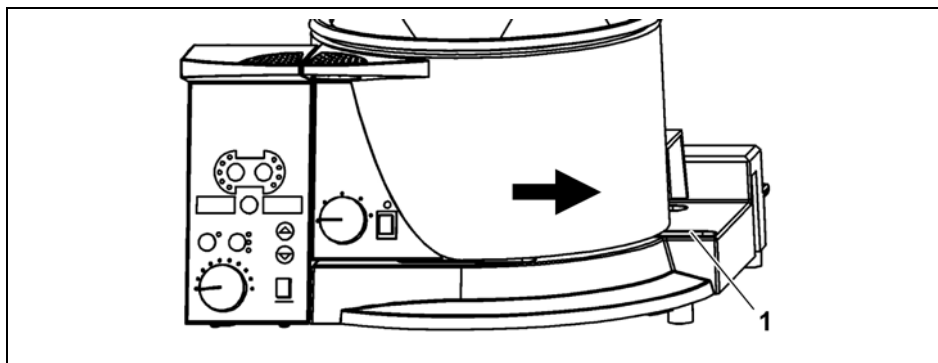

Fig. 4-1: Heating bath
- Holding the heating bath by the grip, move it on the tracks and position it as required (see Fig. 4-1, page 83).